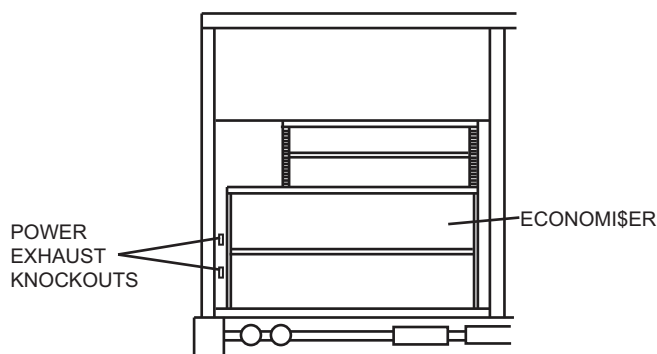

Fig. 2 — Power Exhaust Knockout Location
2. Remove the power exhaust knockout plugs located on the lower left side of the Economizer accessory. (See Fig. 2.)
2. Insert the 2-wire low voltage harness plug from the power exhaust into the top knockout on the economizer. (See Fig. 2.)
6. Insert the high voltage harness plug from the power exhaust into the bottom knockout on the Economizer. (See Fig. 2 and 4.)
2. Insert the 2-wire low voltage harness plug from the power exhaust into the top knockout on the EconoMiSer2 accessory. (See Fig. 2 and 9.)
6. Insert the high voltage harness plug from the power exhaust into the bottom knockout on the EconoMiSer2 accessory. (See Fig. 2 and 9.)